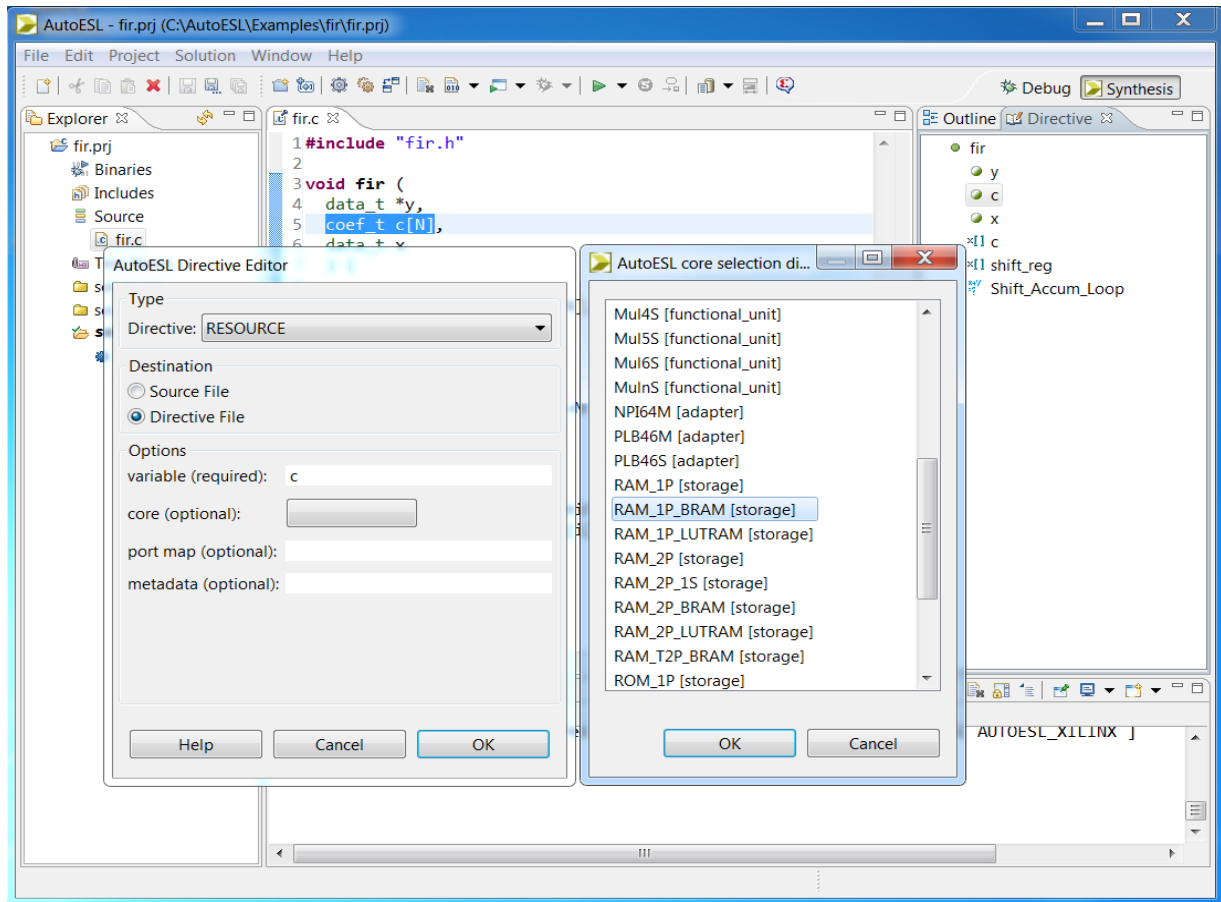

Figure 6-2: Adding a Resource Directive
6. Select **RESOURCE** from the Directive drop-down menu, click the **core box** and select **RAM\_1P\_BRAM**, as shown in Figure 6-2. This ensures the array is implemented using a single port BRAM.